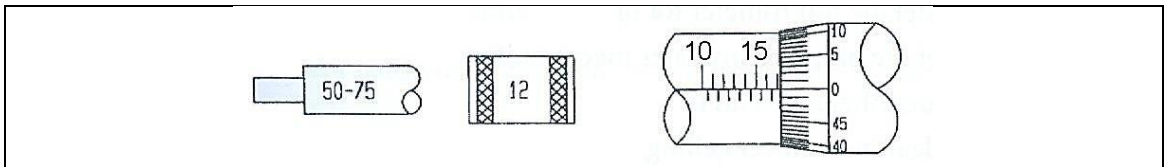

FIGURE 3.2
3.2 FIGURE 3.2 below shows an inside micrometre reading.